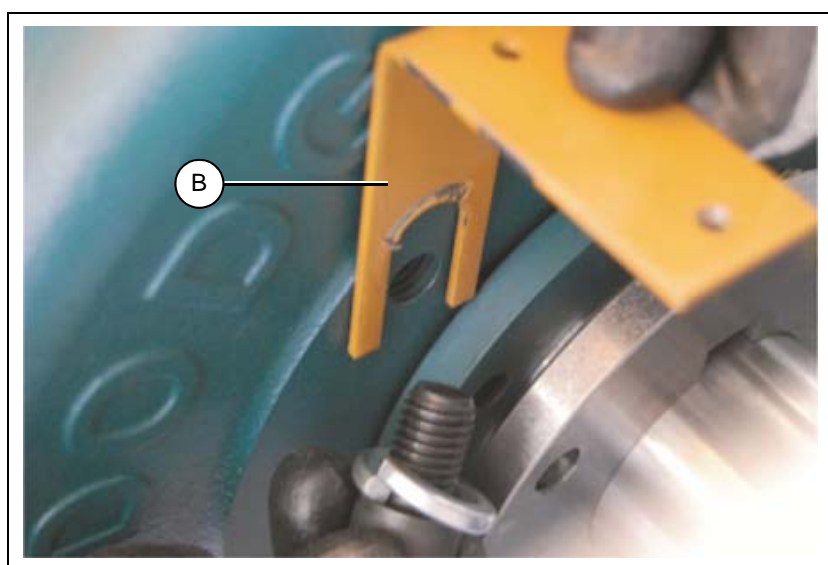

Figure 6Z
2. Install four (4) reducer shaft guard clips (B) to gear reducer using supplied bolts and lock washers. Tighten only finger tight at this time. *(See Figure 6Z.)*